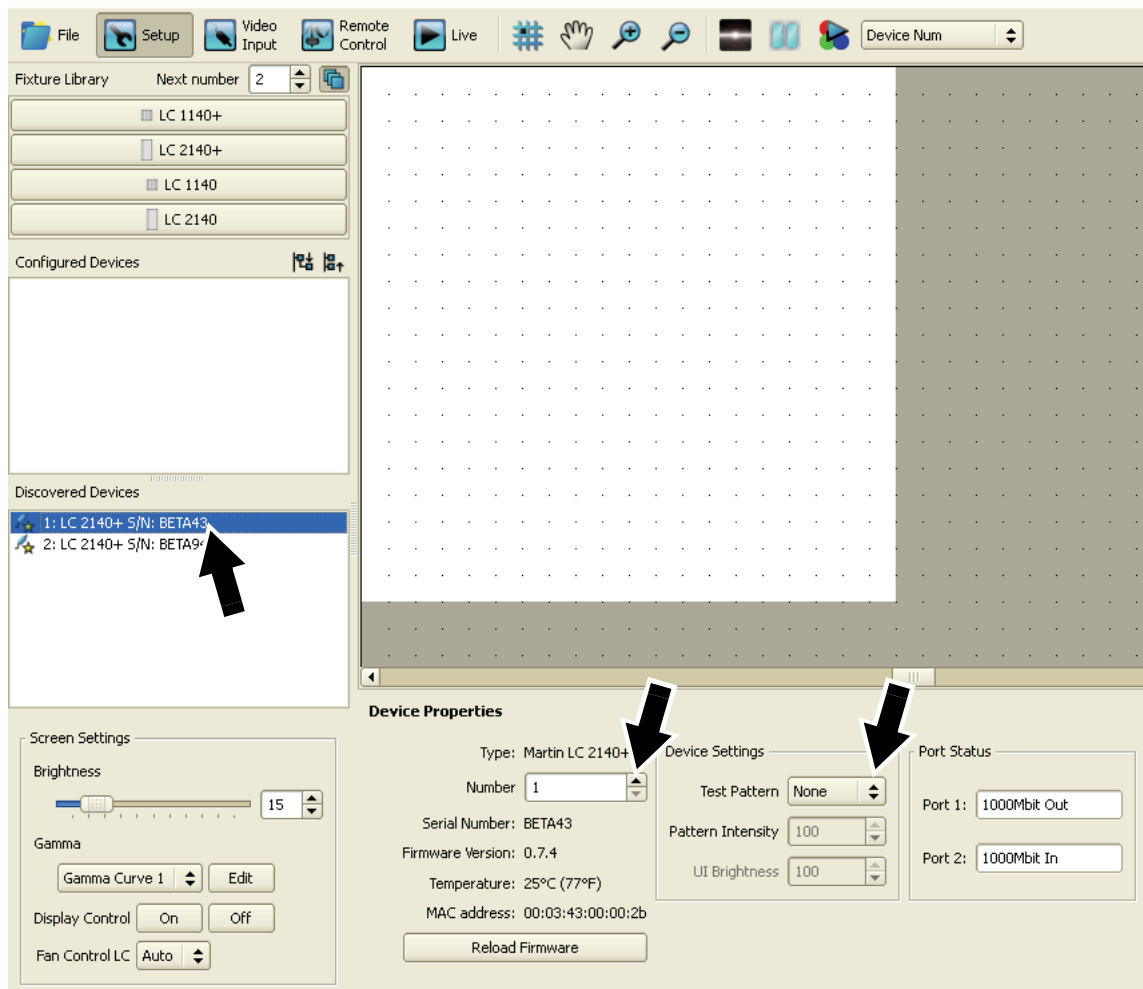

Figure 15: Device Properties for Discovered Devices
3. Once you have given correct display addresses to panels in the **Configured Devices** window, repeat this process for any panels in the **Discovered Devices** list. See Figure 15. Click on the panel name (arrowed) to open its **Device Properties**, set the panel to display a test pattern (arrowed), give the panel the correct display address (arrowed) for its position in the physical display, then de-activate the test pattern. Each time you give a correct display address to a detected panel, it will appear in the **Configured Devices** list